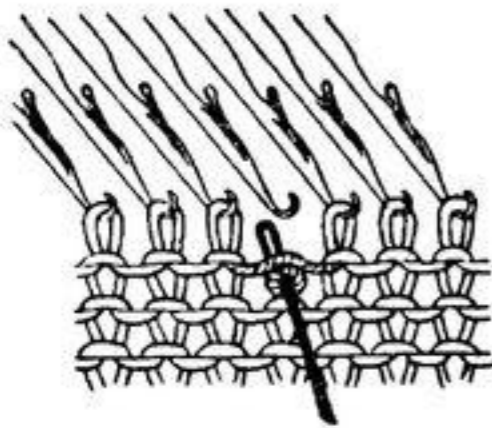

Fig. 48-1
1. Put the single eye Transfer Tool through the loop of the dropped stitch. (Fig. 48-1)